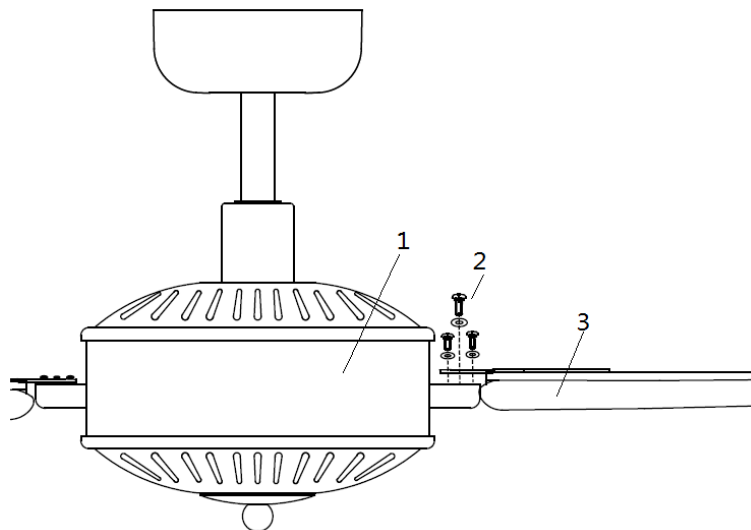

Fig. 5
- Align the 3 holes of the blade (3) to the fan motor assembly (1).
- Secure the blade with 3 blade screws and lock washers (2) provided.
- Follow the same process for the remaining two blades. (Fig.5)